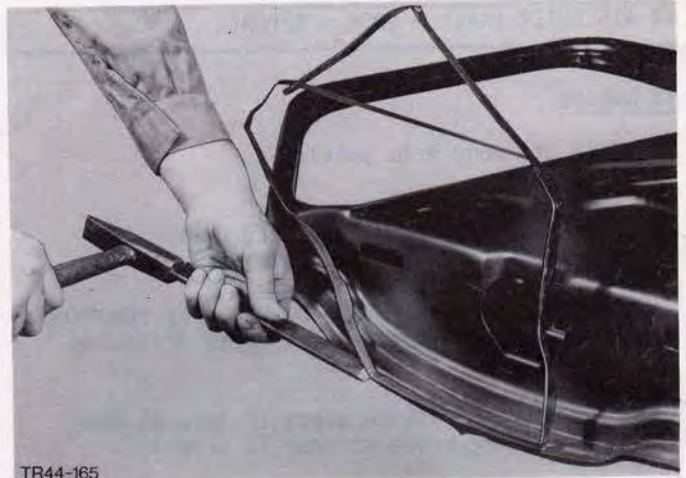

Fig.108. Remove metal remnants from spot weld flanges.
13. Remove metal remnants from spot weld flanges with hammer and chisel, Fig.108.